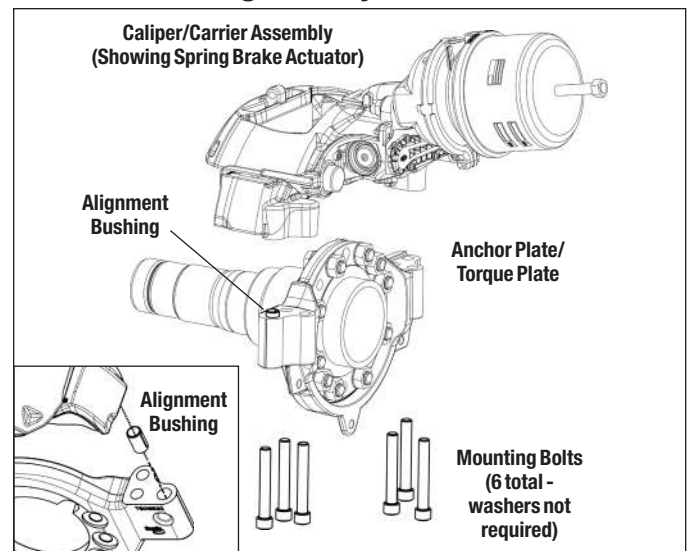

Figure 41 – Vertical Mount Caliper/Carrier
- 5.3.4 See Figure 41. Supporting the air disc brake by necessary means, remove the six (6) mounting bolts/washers and discard. Note: Bendix strongly recommends that during reassembly these bolts are replaced – see your vehicle manufacturer for replacement hardware. Lift the caliper up off the anchor plate.